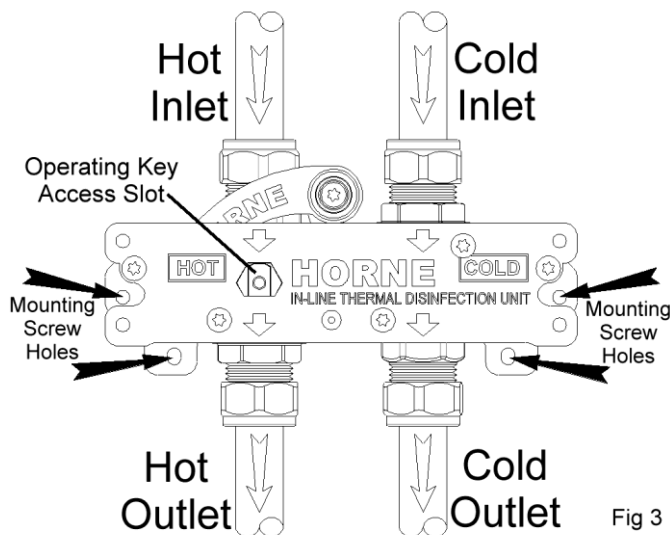

Fig 3
- The ILTDU will not operate as intended unless it is configured exactly as shown in Fig. 3. It is expressly not permissible to swap over inlets and outlets, or hot and cold pipework, even if these are done symmetrically. Check the plumbing against the connections shown in Fig. 3.